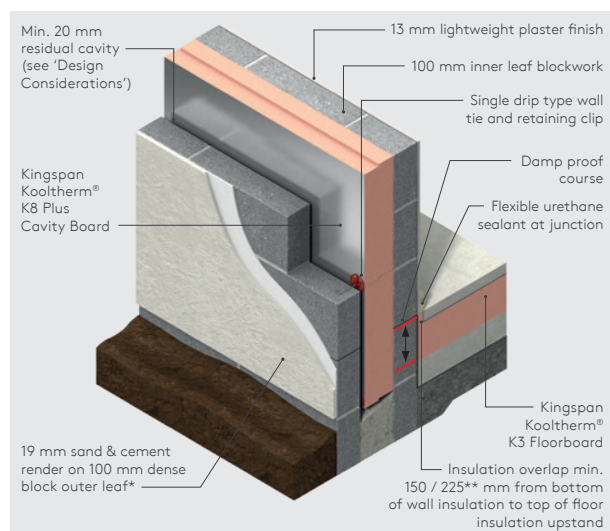

Figure 1
- In order to minimise cold bridging at the edge of ground floors, the distance between the top surface of the floor insulation or perimeter insulation upstand, and the bottom of the wall insulation must be a minimum of 150 / 225* mm for a concrete floor (see Figures 1 & 3) and 200 mm for a suspended timber floor. The further appropriate wall insulation extends past the floor insulation, the better the thermal performance of the junction between the wall and the floor.